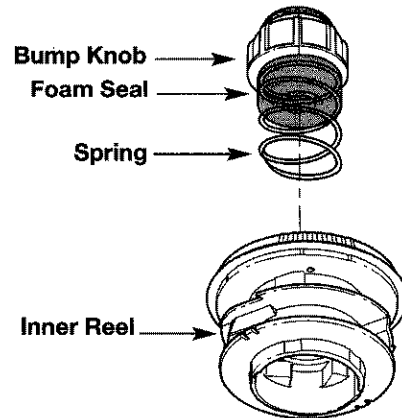

Fig. 25
1. Turn the Bump Knob counterclockwise and remove the bump knob, spring, and foam seal (Fig. 25).
2. Pull out the bump knob, spring, and foam seal (Fig. 25, Pg. 15).
3. Pull the inner reel with existing line from the outer spool (Fig. 25, Pg. 15).
7. Place the bump knob, spring, and foam seal into the inner reel (Fig. 25, Pg. 15).